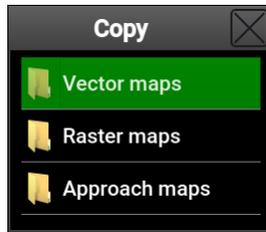

Figure 3.18: Type of file to search for.
**Copy** copies a file with `kus`, `ras`, `nam` or `lic` extension from an USB memory stick. All these files are in Kanardia specific format. A new window appears asking for intended copy action, Figure 3.18. Vector maps have `kus` extension, raster maps use `ras` for the maps and `lic` for licenses and approach maps expect `nam` extension.